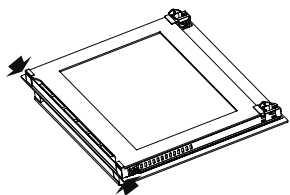
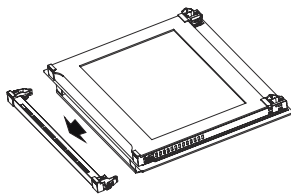
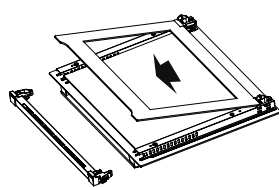

Figure 10
Figure 11
Figure 12
1. Press the plastic latches on the left and right sides as shown in Figure 10 and lift the the profile by pulling it towards you as shown in Figure 11. Glass will be free after the profile is removed as shown in Figure 12. Carefully pull the glass that has become free toward you. If necessary, the middle glass can also be removed in the same way. The outer glass is fixed to the oven door profile. You may easily clean the glasses after they have been separated. Once the cleaning and maintenance is complete, you can replace the glasses and the profile by performing the removal procedure in reverse. Make sure that the glass is inserted in the correct direction and that the profile is seated properly.